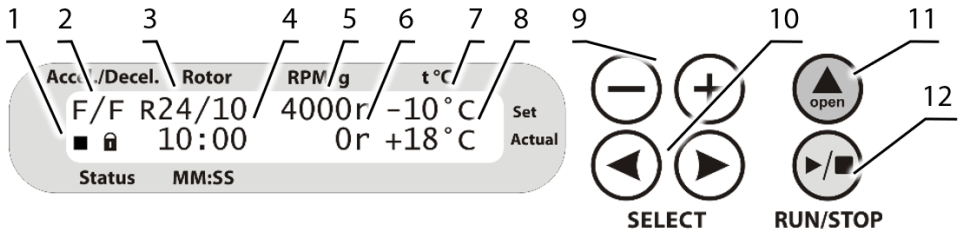

Figure 6. LMC-4200R control panel
- Set chamber temperature, in degrees Celsius (only **LMC-4200R**, fig. 6/7);
- Actual chamber temperature, in degrees Celsius (only **LMC-4200R**, fig. 6/8).
5.5.5 Chamber temperature (fig. 6/7, only for **LMC-4200R**). Select the chamber temperature, step 1 °C. Cooling starts independently from centrifugation.